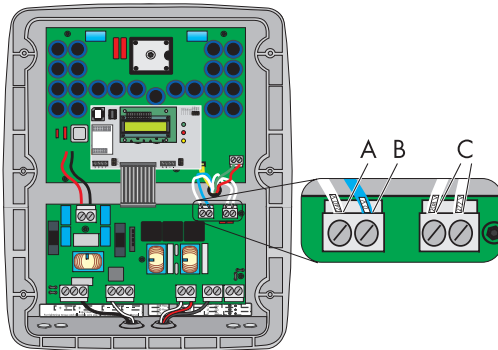

Figure 3-2: Input Voltage Wiring Terminals
The Sunny Boy comes from the factory pre-configured for utility interconnection at 240 V AC. The Sunny Boy may be reconfigured for other voltages by following the steps below and referring to Figure 3-2.
There are four wires coming into the main cabinet through a grommet. Each wire is labeled with its corresponding voltage and is connected to one of the two large terminal blocks located just below the grommet. Refer to Figure 3-2 and follow the instructions below:
1. The input voltage setting is determined by the jumper that is connected to the left terminal block. See Figure 3-2 (A). The Sunny Boy comes from the factory configured for connection to a 240 V system. If the system is 240 V, no adjustment is necessary.
- If adjustment is necessary, choose the wire with the correct voltage for your application from the right terminal block (C) and connect it to the left side of the left terminal block. Tighten all wires on the left terminal block.